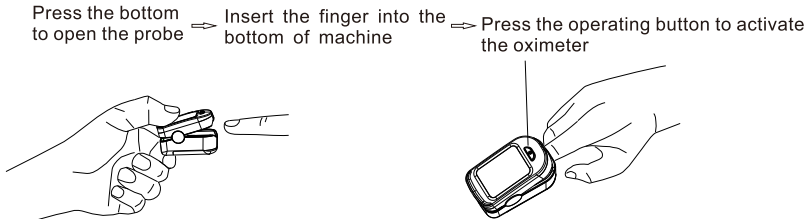

Figure 4. Operation Guide
- B. Hold the oximeter with the display facing toward you, slide your finger into the opening probe of the device, as shown below (Figure 4), until the fingertip touches the built-in stop guide. For best results, make sure the finger is centered with the finger guide.